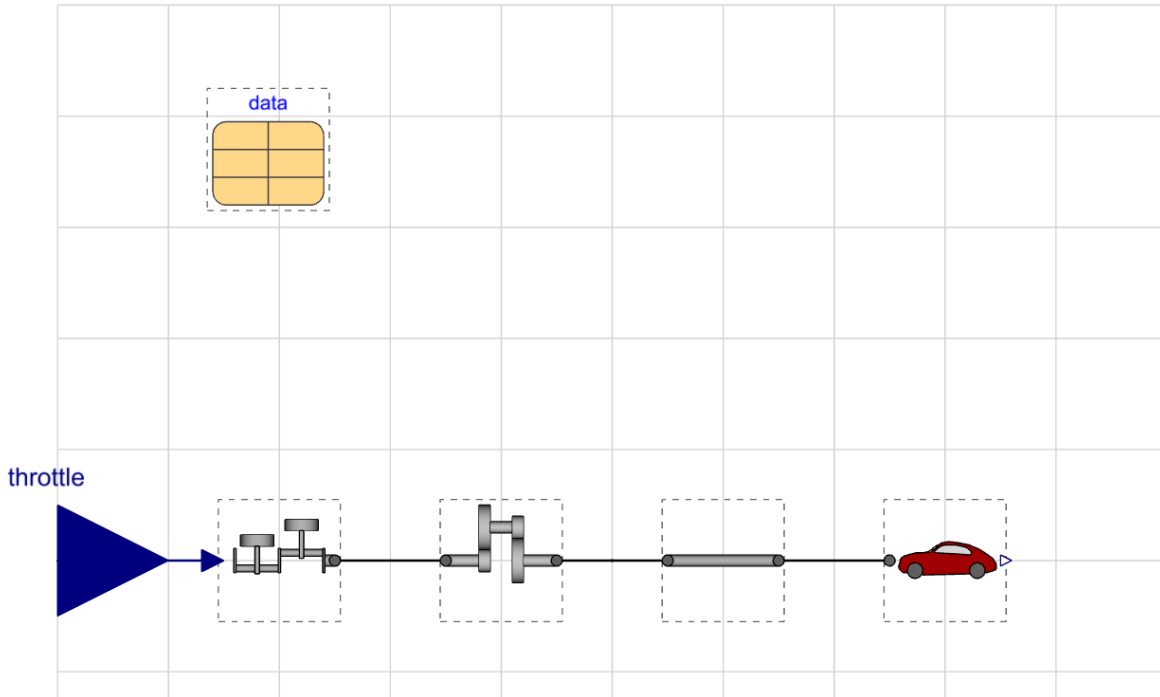

Figure 8 SimpleCar model
- The SimpleCar model should look like Figure 8.